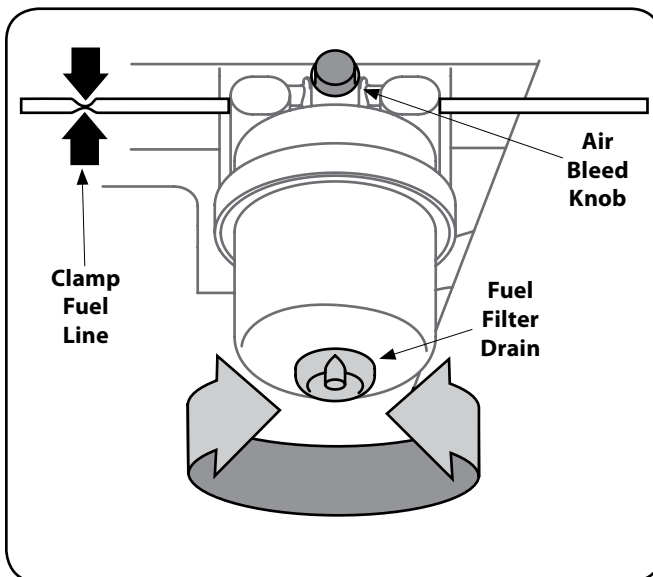

Figure 5-4
3. Turn the filter drain counter-clockwise to open. Allow the water at the bottom of the filter to drain until only pure diesel fuel drains from the valve. See Figure 5-4.
5. Slowly turn the air bleed knob counter-clockwise until fuel begins to seep out around the bleed knob. Turn air bleed knob clockwise to close. Refer to Figure 5-4.
2. Clamp the fuel line just to the rear of the fuel filter. See Figure 5-4.